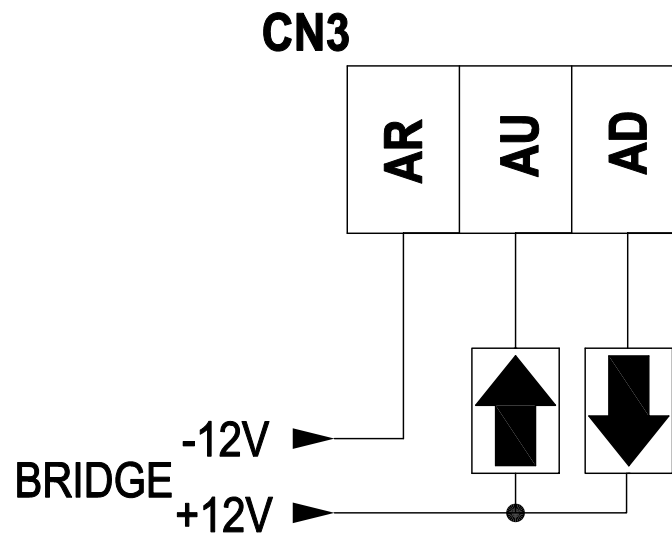

Figure 7.0 - Arrow Signals Connections
The terminals of the Arrows (up and down) are connected as illustrated in Figure 7.0.
- Figure 7.0 illustrates the installation and wiring of the Arrow Signals.